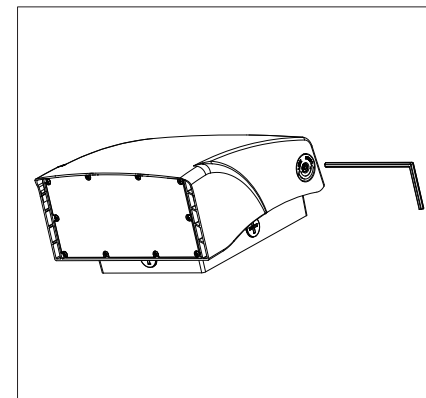
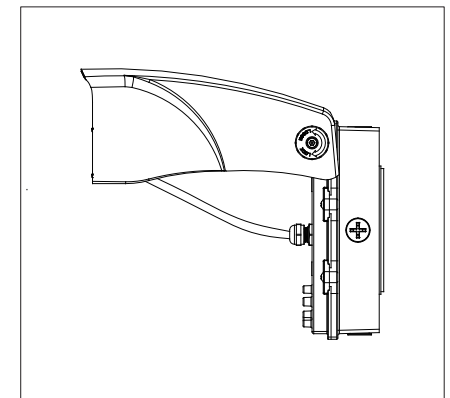

Figure 1
Figure 2
Step 1: Loosen the screws on the side of the radiator with an Allen wrench, and rotate the radiator to 90 degrees(Figure 1 & Figure 2);